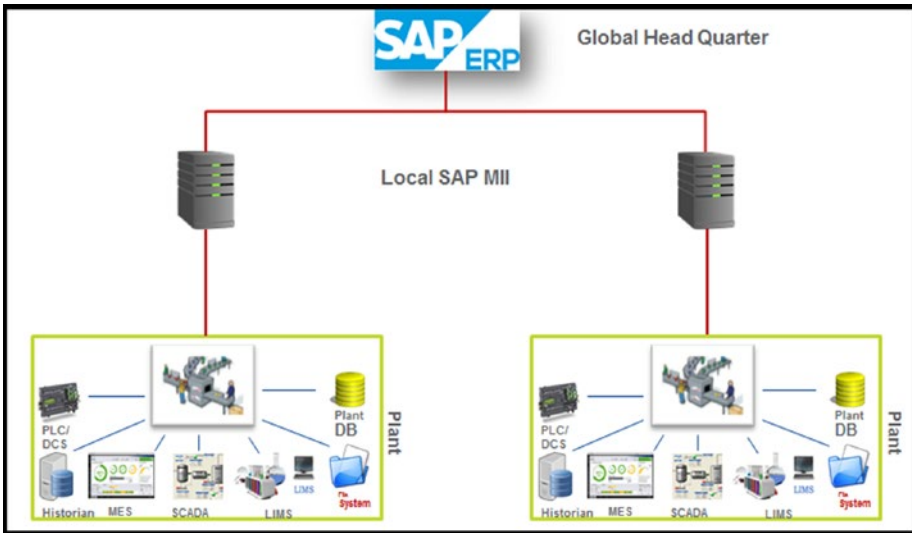

Figure 1-4. SAP MII local server landscape
- *Local installation:* SAP MII is installed at the manufacturing plant site. For each plant site, there is one SAP MII system. All those systems are connected to the Global ERP. See Figure 1-4.